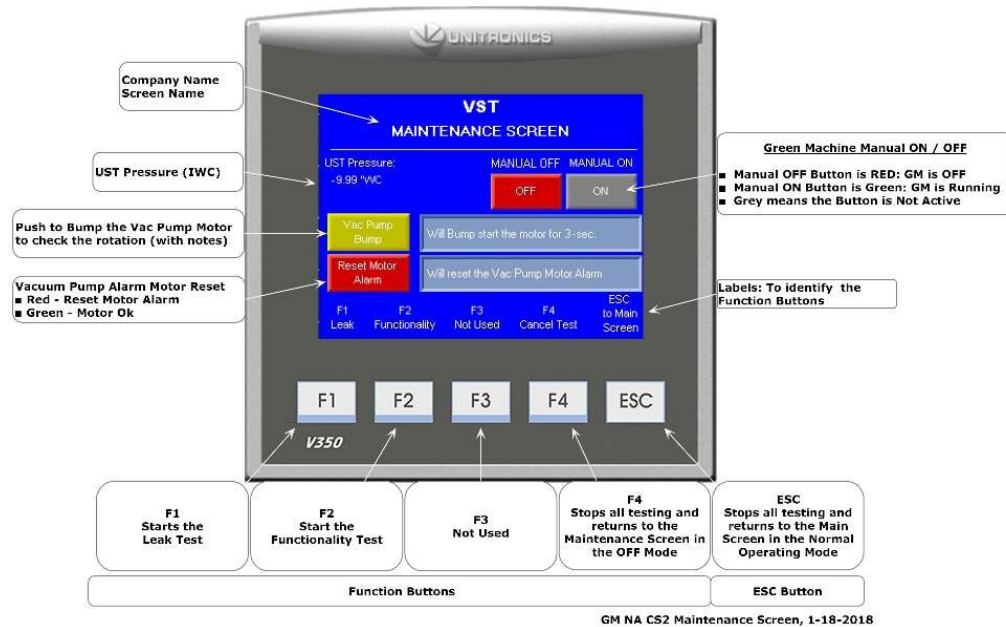

Figure 6-6: Maintenance Screen
1. At the VST Control Panel, make sure the Maintenance Screen is showing on the PLC. **See Figure 6-6.** (The GREEN MACHINE is now in the Manual OFF mode and will not operate.)